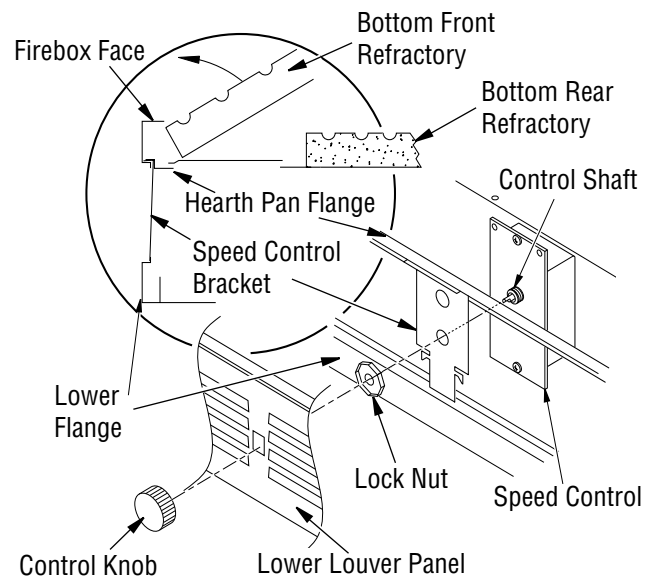

Figure 10: Attaching Speed Control to Firebox with Panel Louvers Using Speed Control Bracket 109892-02
1. Position speed control bracket by inserting flange of bracket between hearth pan and upper flange of louver opening, then seat bottom end of bracket onto lower flange of louver opening (see Figure 10).
2. Mount speed control box by placing plastic control shaft through bottom hole on speed control bracket. Top screw head on control box will fit inside top hole on bracket (see Figure 10). Secure speed control to bracket with lock nut by pushing and turning lock nut with pliers clockwise until it is tight against bracket.
4. Place louver panel, louvers pointing up, back into framed opening. Align control shaft with rectangular opening by sliding control bracket along flange (see Figure 10).
6. Place control knob, provided, onto control shaft (see Figure 10).